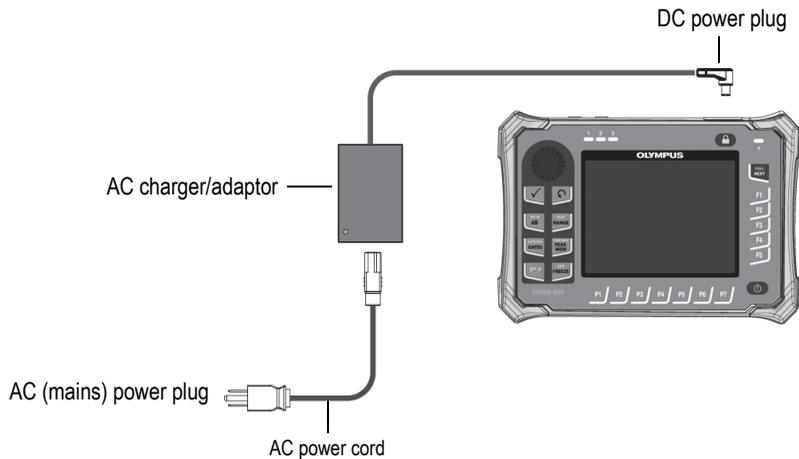

Figure 2-2 Connecting the charger/adaptor
1. Connect the power cord to the charger/adaptor unit and to an appropriate power outlet (see Figure 2-2 on page 46).